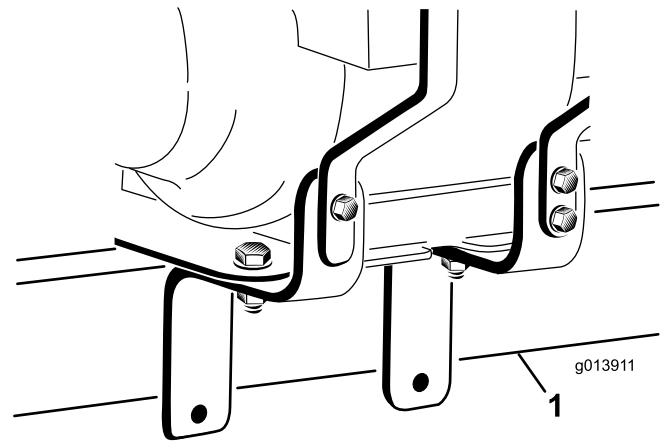
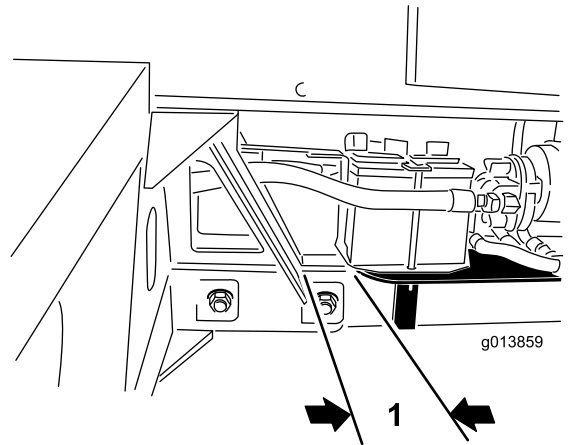

Figure 5
Figure 6
19. Since the engine assembly is heavy, positioning of this component can be difficult. With the help of an assistant, position the engine assembly onto the ProPass hitch tube. Ensure that the engine mount brackets straddle the hitch tube (Figure 5 and that the rear of the engine mount plate is approximately 25 mm (1 inch) from the ProPass hitch tube receiver (Figure 6).